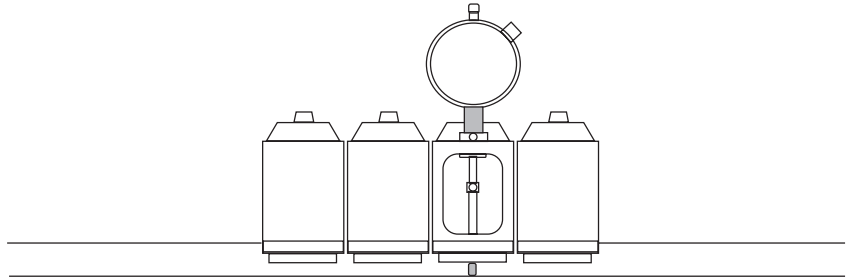

Figure 3-16. Test Cartridge Installed.
4. Remove the Cyan ink cartridge. Snap the test cartridge with the micrometer gauge into the position vacated by the Cyan ink cartridge. See Figure 3-16. Ensure that the micrometer can be read from the BACK of the printer.